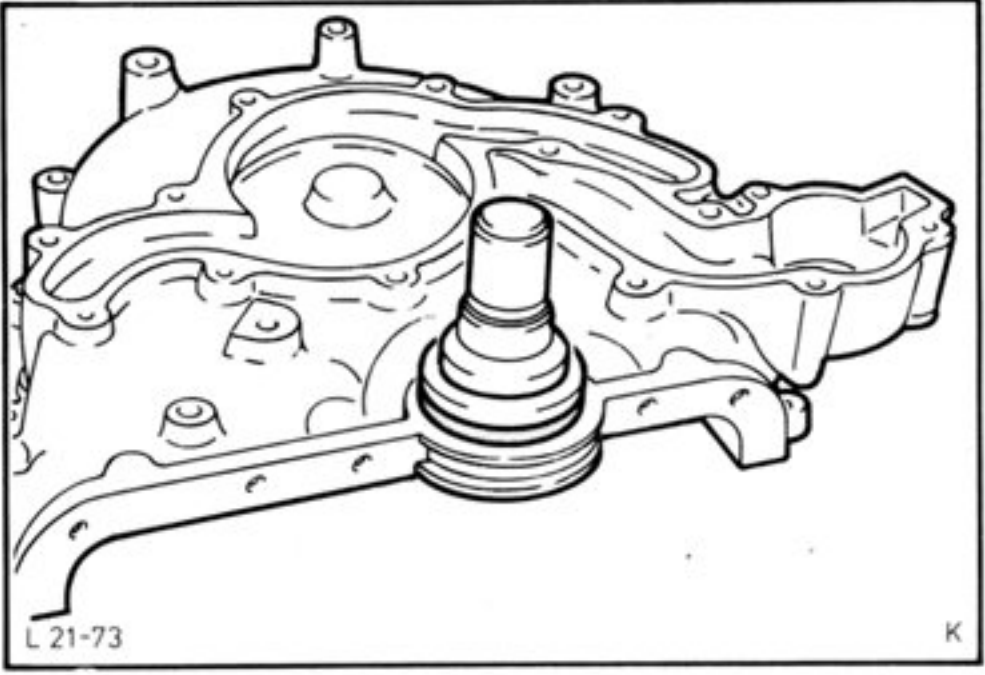

Fig.41. Replace oil seal.
33. Replace timing cover oil seal, using Special Tools 21-069 and 21-070, Fig.41.